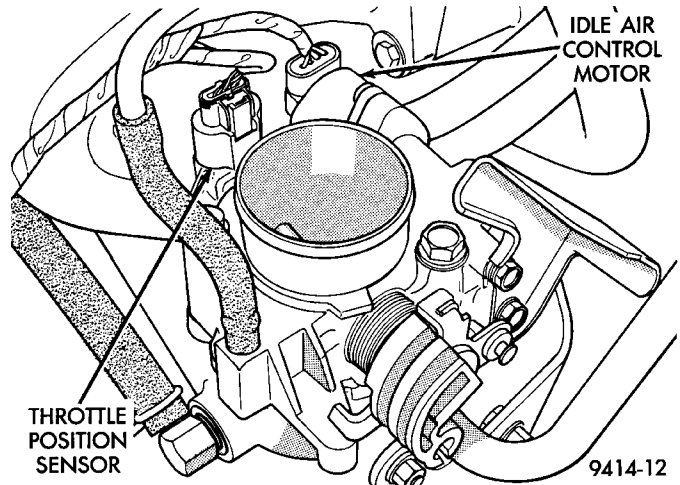

Fig. 94 Servicing Idle Air Control Motor
- (1) Disconnect negative cable from battery.
- (2) Remove electrical connector from idle air control motor and throttle position sensor.
- (3) Remove the EVAP purge hose from the throttle body.
- (4) Remove throttle body. Refer to Throttle Body in this section.
- (5) Remove idle air control motor mounting screws (Fig. 94).